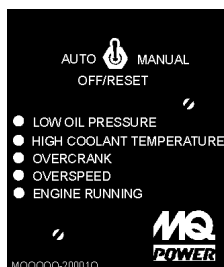

Figure 10.
9. **Pre-Heat Button** – Press hold this button until the pre-heat lamp is lit (ON).
10. **MPEC – Microprocessor Engine Control Module** – (MPEC) has a vertical row of status LED's (Figure 10), that when lit, indicate that an engine malfunction (fault), has been detected. When a fault has been detected the MPEC will evaluate the fault and all major faults will shutdown the generator.